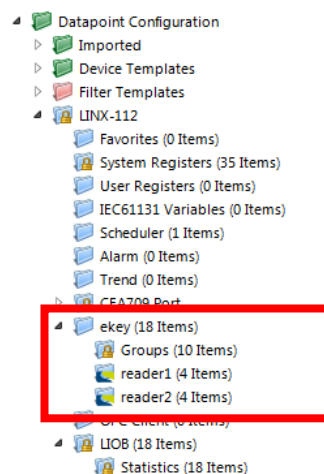

Figure 316: Data Point Manager with ekey device folders.
- The folder list (Figure 316),